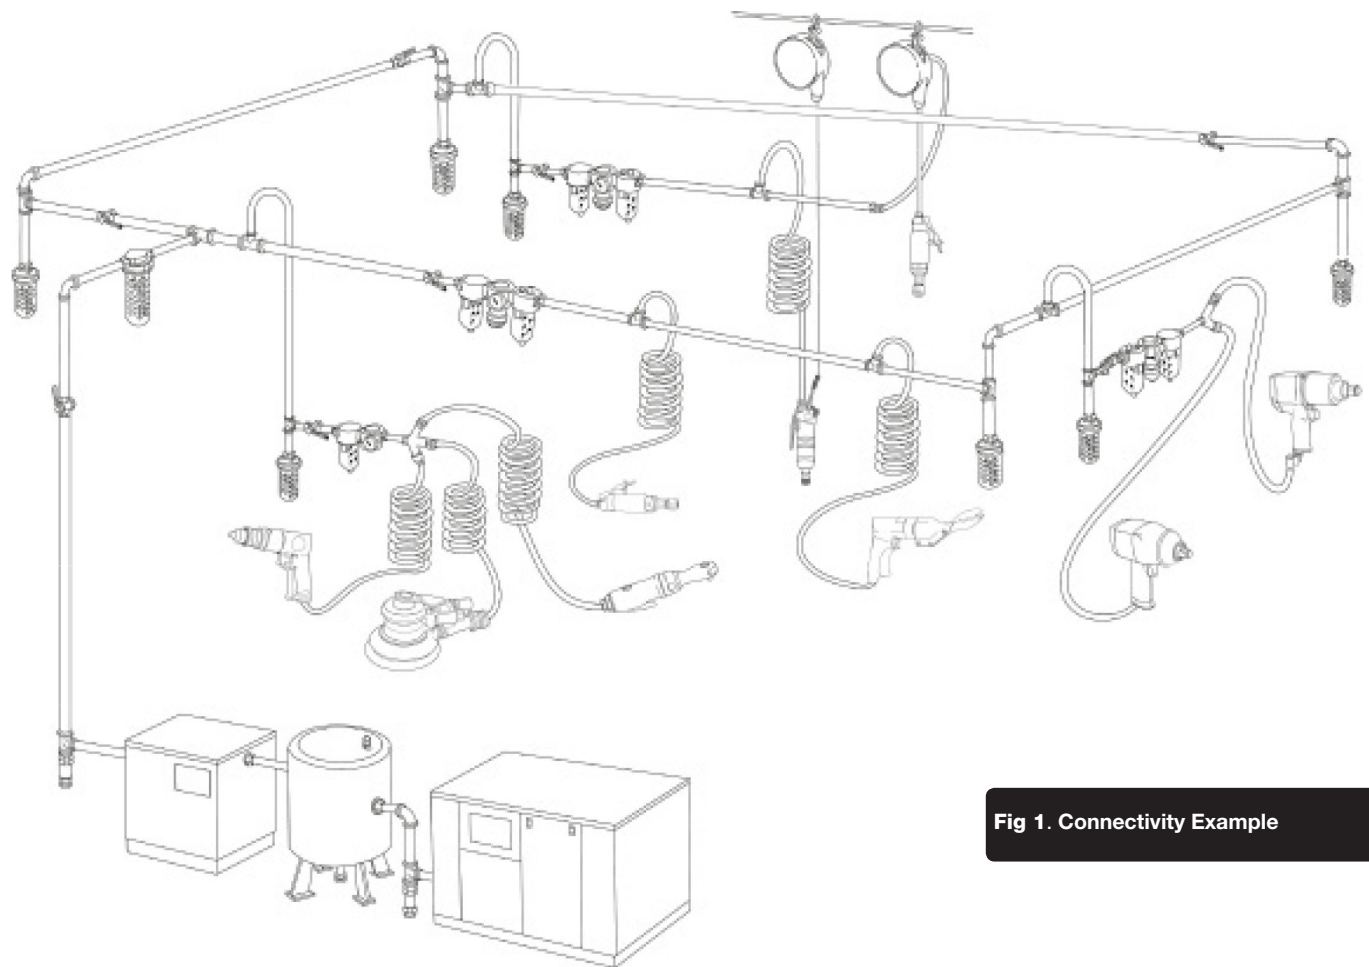

Fig 1. Connectivity Example
- **Ensure that** the compressed air is cooled and its water content filtered and lubricated as required as shown in **Fig 1** below.